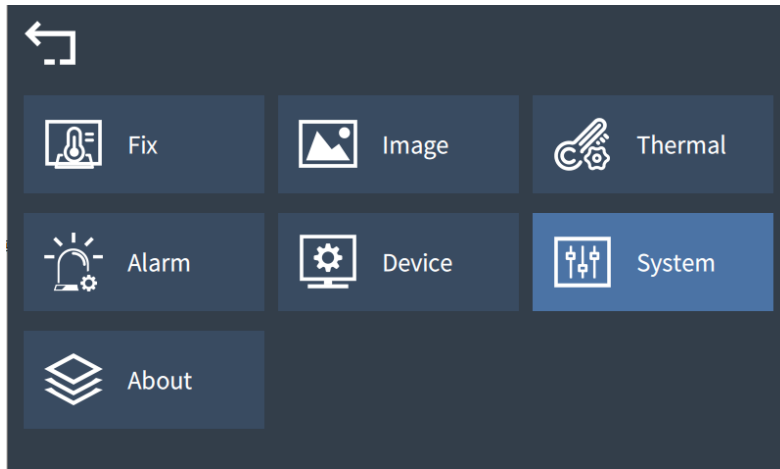

Figure 4.13 Alarm Settings
Step 3: Touch or press the physical button to switch to "System Settings" and press the physical "OK" button to enter the system Settings interface (as shown in Figure 4.13);